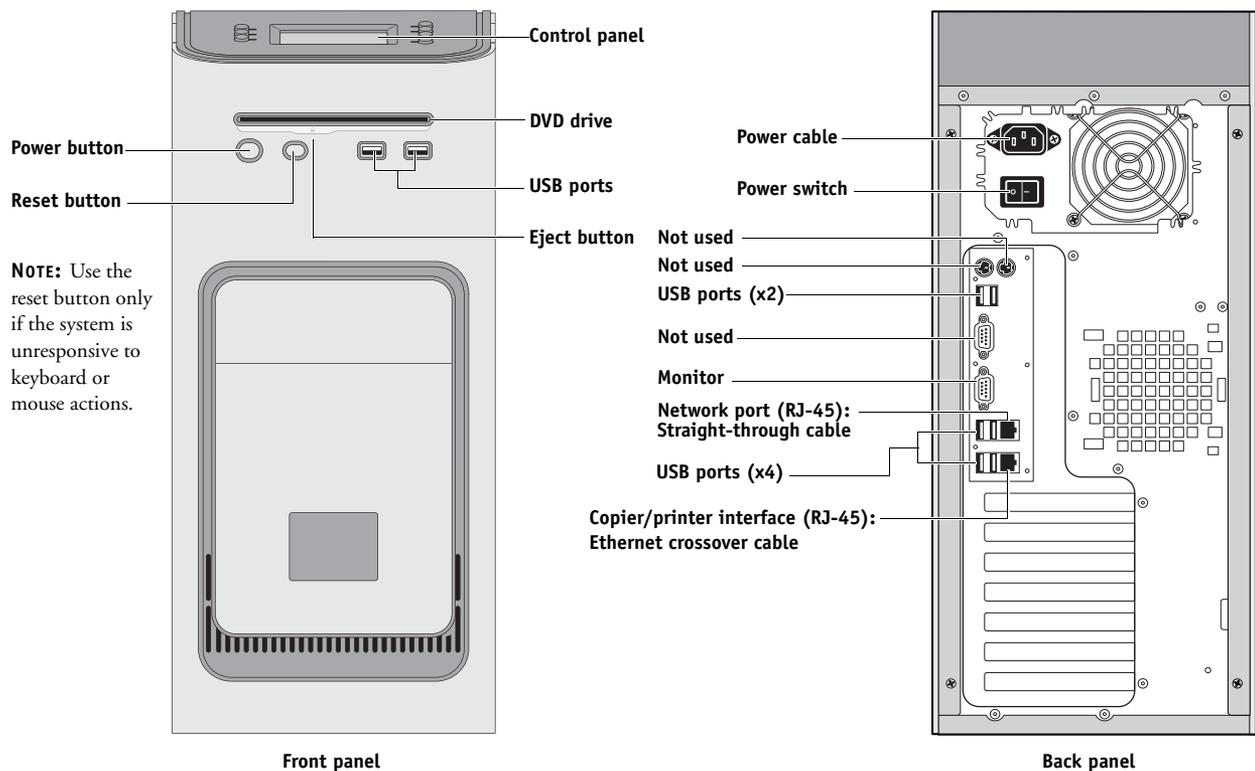

FIGURE 40: E-41 external cable connections
- All interface cables to the system are plugged into the proper connectors (see Figure 40).